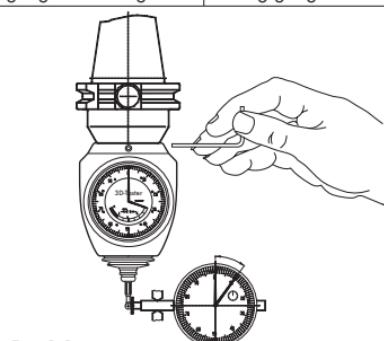

Fig. 2.3:
3. Loosen all 4 concentricity setting screws (hexagon socket key, 2 mm, fig. 2.3)
- Turn sensor such that the two setting screws that are opposite each other are located in the measuring direction of the testing gauge. Bring the pointer of the testing gauge to 0 (Fig. 2.3) with these two setting screws and the attached key.